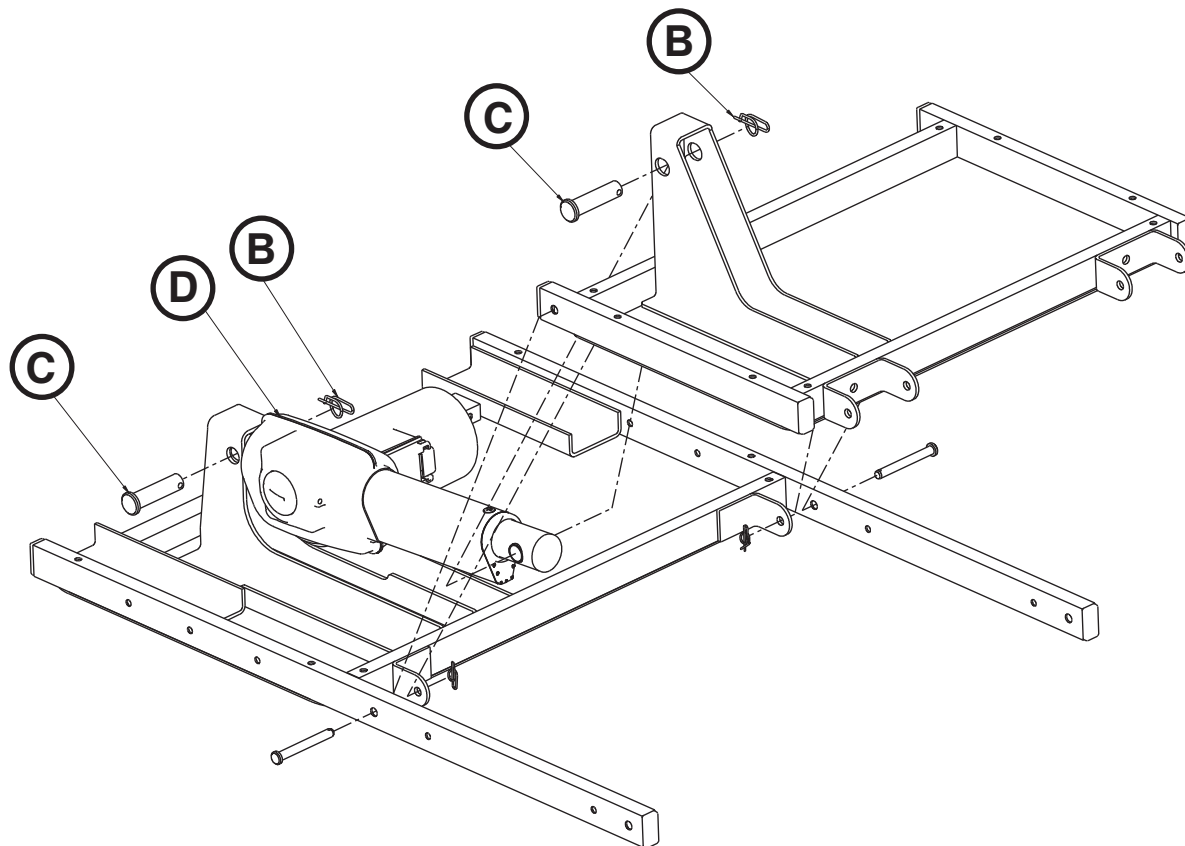

Figure 43
8. Using needle nose pliers, remove the rue ring cotters (B) from the clevis pins on the head end and foot end of the actuator (D) (Figure 43 on page 62).
9. Supporting the actuator (D) with one hand, remove the clevis pin (C) from the foot end of the actuator (D) and lower the actuator down toward the base hood (Figure 43 on page 62).
10. Supporting the actuator with one hand, remove the clevis pin (C) from the head end of the actuator and set the actuator on the control board cover (Figure 43 on page 62).
- Install the actuator by installing the head end clevis pin (C) and rue ring cotter (B) first (Figure 43).
- Install the foot end clevis pin (C) and rue ring cotter (B) (Figure 43).